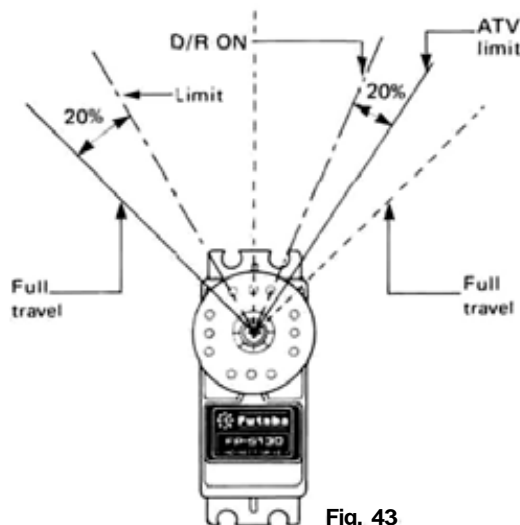

Fig. 43
- When Dual Rate is ON, servo travel in each direction is reduced by the same percentage (adjustable using D/R trimmers). For example, in Fig. 43 one direction has been limited using ATV. Both sides are reduced 20% when D/R is ON. In other words, the ratio of UP to Down will be maintained when D/R is ON or OFF.